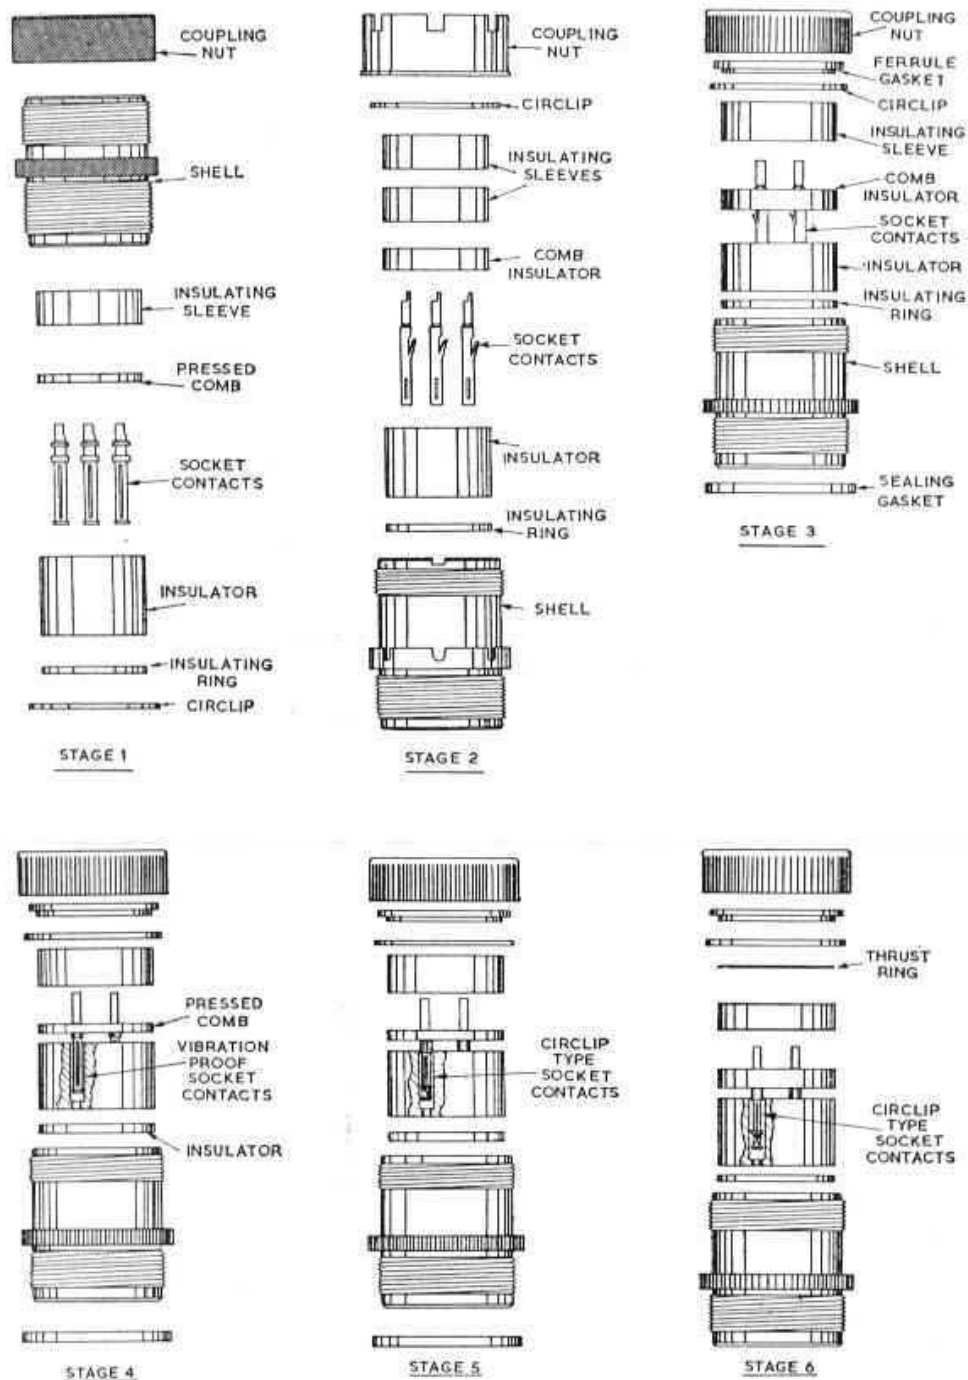

Fig. 8. Free unit, stages of development
13. This style of unit (fig. 8) was the original design, manufactured with rimmed shells in aluminium, brass or steel. It includes a long socket insulator of phenolic material and a pressed comb. Solid end split type socket contacts with short wells (suitable only for soldering) are used and these are protected by an insulating sleeve at the well ends. A diamond knurled coupling nut screws on to the back of the shell to secure the assembly; at the front of the shell the insulator is retained by an insulating ring and a circlip.
14. In this style (fig. 8) the shell and coupling nut were modified. The shell rim is castellated and longer shells are used in sizes D, E and F. The coupling nut is not knurled but castellated. A shortened socket insulator is used and this is backed by a comb insulator in place of the pressed comb. Rolled type socket contacts (suitable for soldering or crimping with the use of thimbles) are used and these are protected by insulating sleeves at the well ends (one sleeve is used in a size A, Z, B or C shell; two sleeves are used in a size D, E or F shell). The insulator is retained by the insulating ring at the front and a circlip at the back. The coupling nut screws on to the back of the shell to secure the assembly.
17. Units at stage 5 (fig. 8) differed only in the type of contact used. These contacts are an improved type using circlips and were designed to provide lighter insertion loading and greater contact length.
18. Units at this stage (fig. 8) were designed to operate between ambient temperatures of -65 degrees C. and $+150$ degrees C. They are similar in construction to those in stage 5 except that the socket and comb insulators are of alkyd, and the shorter insulating sleeve and the insulating ring are of fibreglass (P.T.F.E. coated); the ferrule gasket is of silicone rubber. A steel thrust ring has been introduced at the rear of the insulating sleeve. The sealing gasket is not included in the assembly but always accompanies the unit since it may be required to mate with an early type of fixed unit.